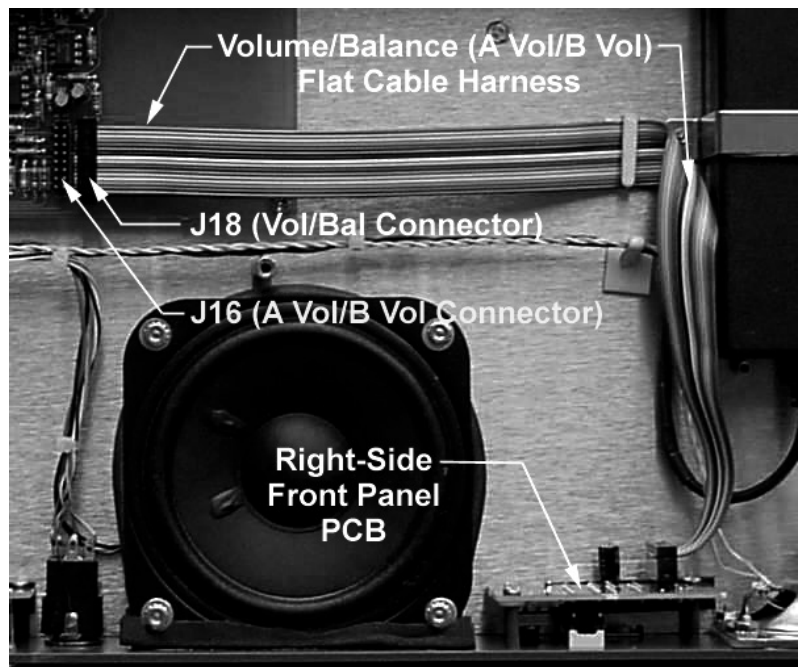

Figure 1-5: Locate the volume/balance cable
3. Locate the Vol/Bal harness (flat cable) running from the right-side front panel PCB (See Figure 1-5).